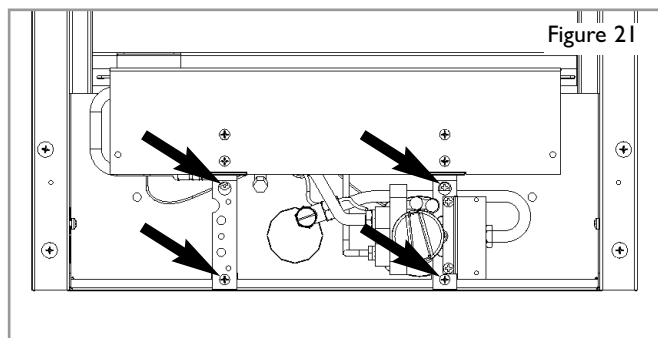

Figure 21
6. Disconnect the gas supply and remove the four screws retaining the burner (two in the burner legs and two in the rear of the firebox - see figure 21).
Firstly, remove the hood and front fret/facia, the glass panel (Blenheim & Euphoria models : remove ceramics), data plate and disconnect the gas connection at the isolator elbow. Remove the burner tray by removing the four securing screws shown in figure 21. Remove the pilot and main burner pipes and blow through to dislodge any debris. Now remove the restrictor elbow and blow through to make sure it is entirely clear. Unclip the pilot lint gauze and clean with a soft brush. Clean the exterior of the pilot assembly with a soft brush and blow through the flame ports on the pilot head. Check the aeration holes are free from lint or dirt. The pilot assembly can be removed if required by disconnecting the electrode HT lead, gas pipe and unscrewing the mounting screws and lifting away. The pilot assembly is a non-serviceable item and should not be taken apart. Aeration holes must be absolutely clear internally for proper operation. **NEVER MODIFY OR BEND THE THERMOCOUPLE TO MAKE THE PILOT STAY ALIGHT.** Modifications are dangerous and can have serious unseen effects on safety. If the pilot will not stay lit there is a problem with dirt, the gas supply to it, or the thermocouple needs replacement. Re-assembly in the reverse of removal.